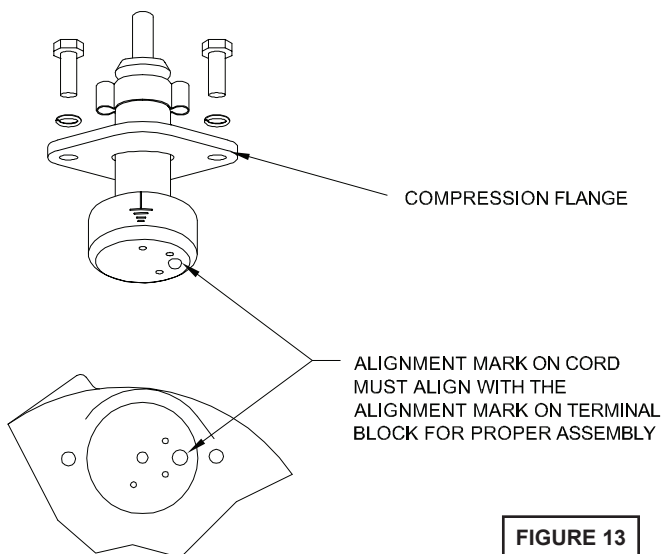

FIGURE 13
Power/Control Cord - Refill the cooling oil as outlined in paragraph F-1.3. Make wire connections as outlined in paragraph F-4.3. Insert female end of cord plug into housing bore aligning timing mark with hole in terminal block (21), see Figure 13. Compress cord plug with compression flange (16a) by tightening hex bolts (11) into the housing (6). Torque to 132 in-lbs.